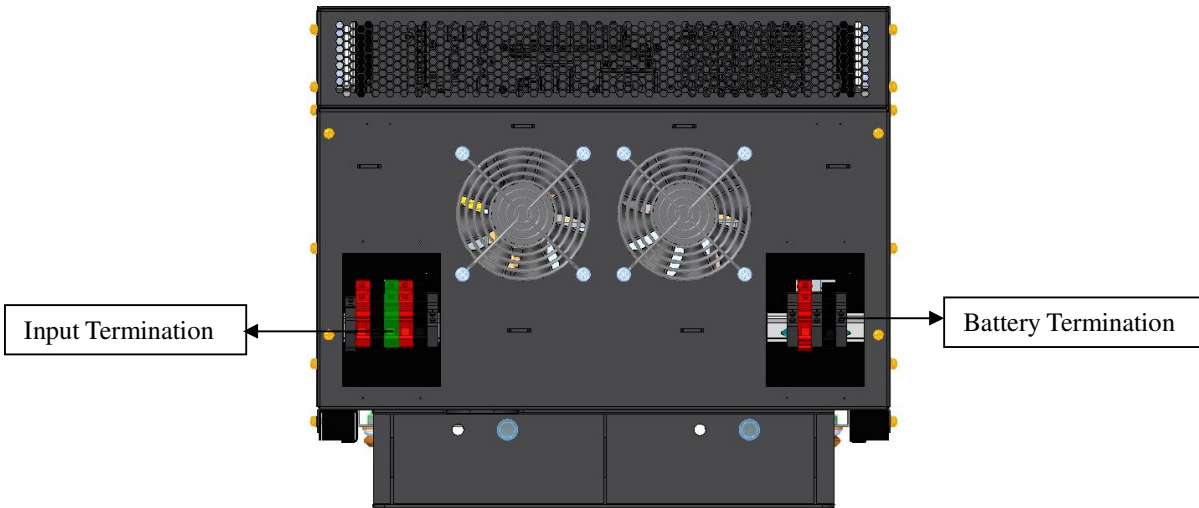

Figure 1-3 UPS Rear side
As shown in Figure 1-3, the UPS rear panel provides ventilation holes for the module and customer input cable terminations.
2. When the mains is normal, the rectifier will start, and the charger will charge the battery string. Before turning on the UPS, the output voltage is bypass voltage, and the mains supplies power to the load through the bypass. After turning on the UPS, the electronic transfer switch connects the inverter output to the load, and the mains supplies DC power to the inverter through the rectifier/PFC circuit. The inverter then converts DC power into pure sine wave AC power and supplies the AC power to the transformer connected to contactor. Final output is supplied to load from transformer secondary through electronic transfer switch. Refer figure 1-3 for the position of contactor and transformer.